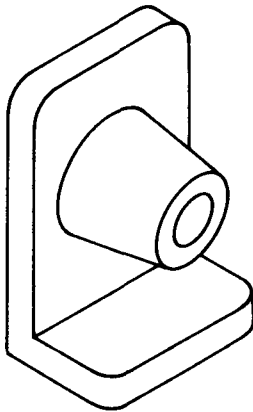

Fig. 3.76
8. Make a three-view drawing in first-angle projection of the bracket shown in Fig. 3.76